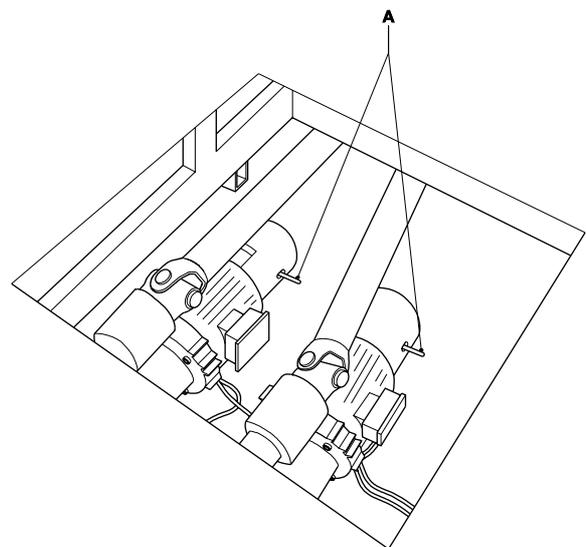

Fig.8-1 Brake lever platform
6. Release the brakes and allow the platform to descend onto the buffers (A, Fig 8-1).